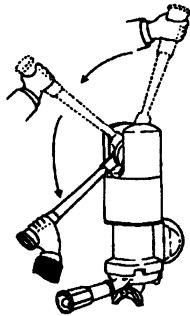

Figure 1
- 4 Pull the lever of the group (Figure 1), when it reaches the lowest position the first drops of coffee should appear at the filter outlet. Gently release the lever so the coffee is dispensed. If more coffee is desired pull the lever once again.